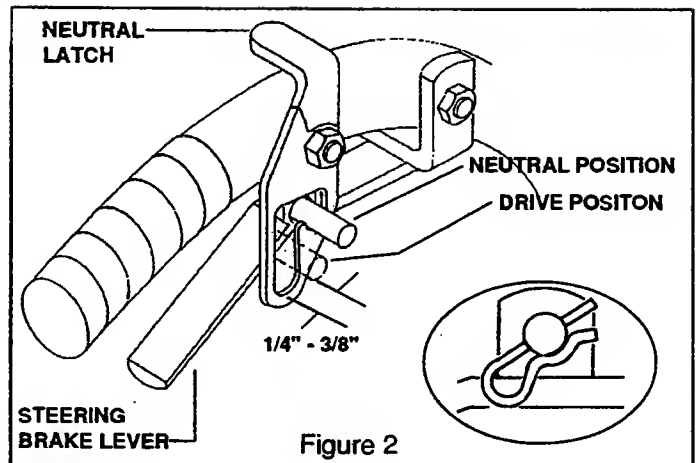

Figure 2
- b) Adjust the rods so that there is about a 1/4"-3/8" clearance to the bottom of the neutral latch slot when in the drive position. Secure with small hair pin cotter as shown (see figure 2)
NOTE: Rods must allow neutral latches to be moved to the neutral position. (see figure 2)
1. Steering control rods should have about 1/4" clearance between the bottom of the slot and the bottom of the rod when the steering levers are released (see figure 2).